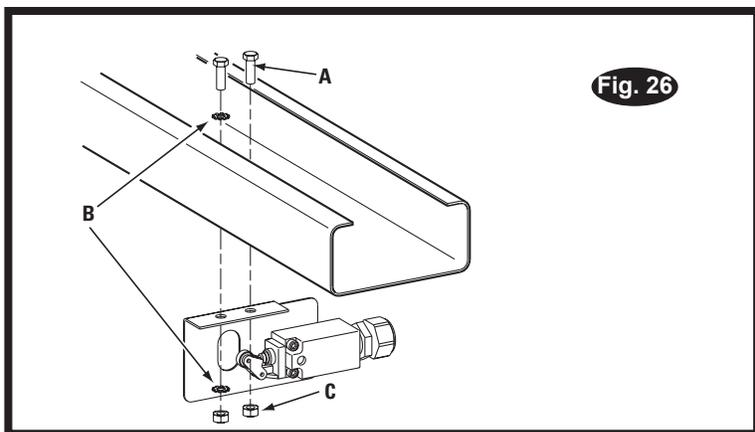

Fig. 26 Detail
- Mount Overhead switch assembly towards power unit column using (2) M6*20, HHCS, M6 Nuts and 6mm Star Washers, Fig. 26.